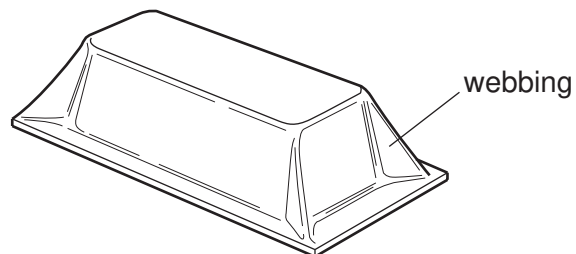

Fig. 3
- 8 Fig. 3 shows a fault that can occur when vacuum forming sheet plastic over a mould. The fault is called 'webbing'.